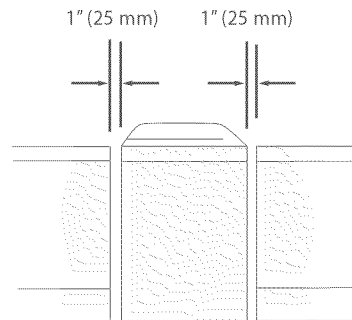

Fig.8 Minimum clearance
- 2 Move the washer into its final position. We suggest a minimum clearance of 1" (25 mm) on each side for ease of installation (Fig.8).